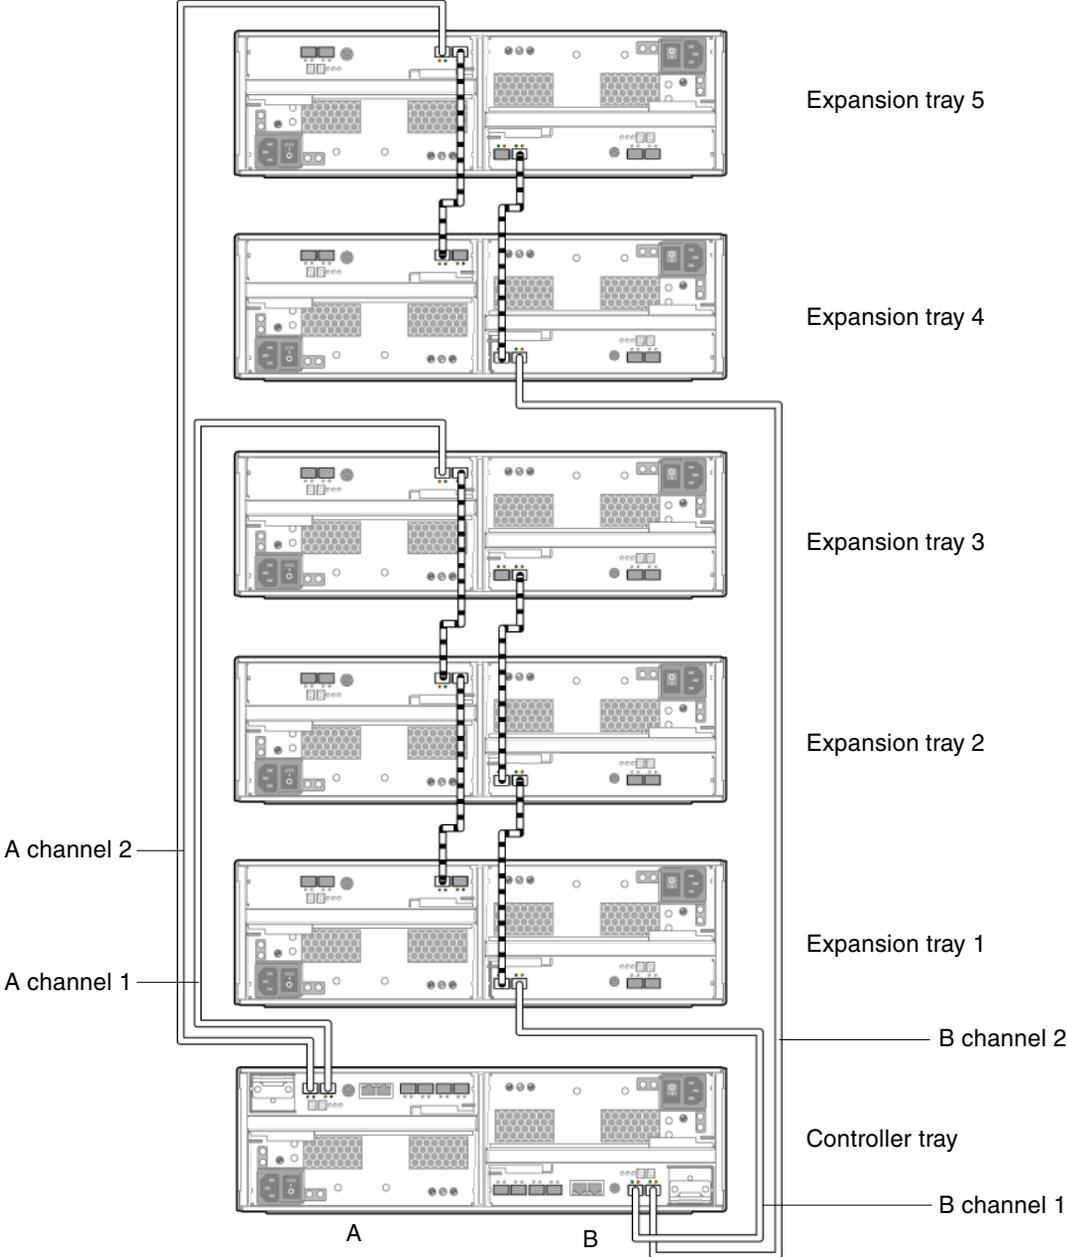

FIGURE 2-27 1x6 Array Configuration Cabling
3. Connect one FC cable between the Controller B channel 1 expansion port and the B-side expansion port 1B of expansion tray 1 (FIGURE 2-27).
4. Connect one FC cable between the B-side expansion port 1A of expansion tray 1 and the B-side expansion port 1B of expansion tray 2 (FIGURE 2-27).
5. Connect one FC cable between the B-side expansion port 1A of expansion tray 2 and the B-side expansion port 1B of expansion tray 3 (FIGURE 2-27).
6. Connect one FC cable between the Controller B channel 2 expansion port and the B-side expansion port 1B of expansion tray 4 (FIGURE 2-27).
7. Connect one FC cable between the B-side expansion port 1A of expansion tray 4 and the B-side expansion port 1B of expansion tray 5 (FIGURE 2-27).
8. Connect one FC cable between the Controller A channel 1 expansion port and the A-side expansion port 1B of expansion tray 3 (FIGURE 2-27).
9. Connect one FC cable between the A-side expansion port 1A of expansion tray 3 and the A-side expansion port 1B of expansion tray 2 (FIGURE 2-27).
10. Connect one FC cable between the A-side expansion port 1A of expansion tray 2 and the A-side expansion port 1B of expansion tray 1 (FIGURE 2-27).
11. Connect one FC cable between the Controller A channel 2 expansion port and the B-side expansion port 1B of expansion tray 5 (FIGURE 2-27).
12. Connect one FC cable between the A-side expansion port 1A of expansion tray 4 and the A-side expansion port 1B of expansion tray 4 (FIGURE 2-27).